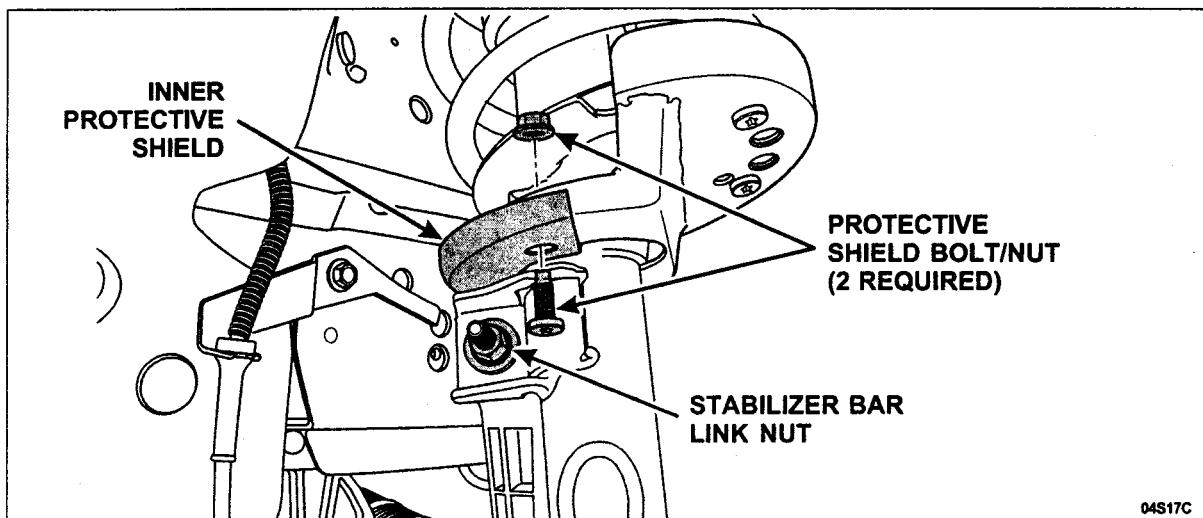

FIGURE 3
- c) Reposition the stabilizer bar link and install *new* retainer nut. DO NOT tighten the nut at this time. See Figure 3.
5. Install the two (2) bolts and the two (2) nuts securing the inner and outer protective shields together. DO NOT tighten the nuts to specification at this time. See Figure 3.